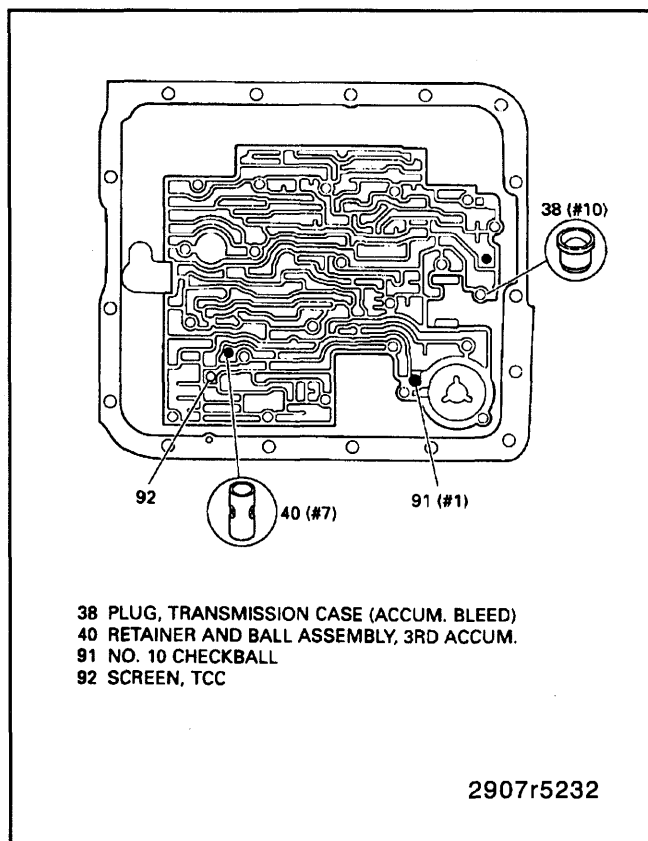

Figure 15—Case Checkballs and Filters
4. The 3-4 accumulator piston (44) onto the pin.
5. The 3-4 accumulator piston spring (46).
6. Torque converter clutch oil screen (92) (figure 15).
7. Checkball (91) into case as shown.